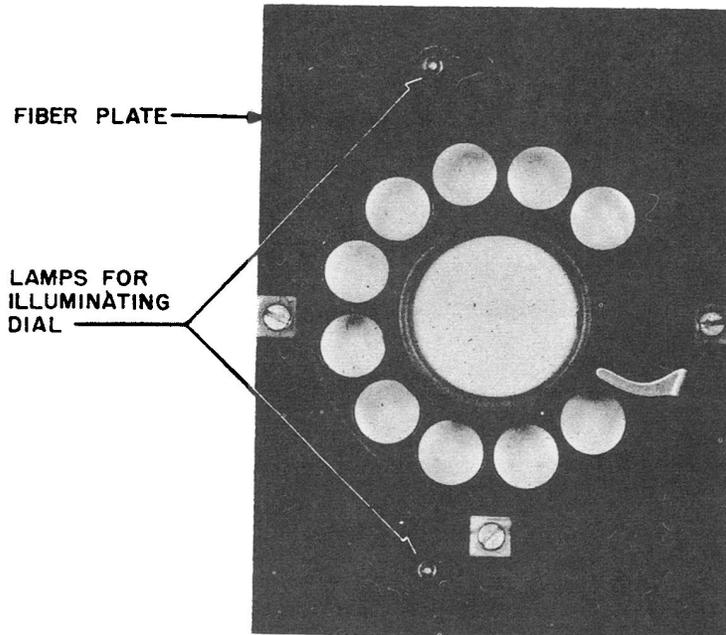

Fig. 13 - 750-type Apparatus Unit, Front View
6.02 Component parts of 750-type apparatus units are mounted, either directly or by means of brackets, on a 3-3/4 by 5-inch fiber plate (Fig. 13 and 14). The apparatus unit may be placed at either end of the assembly, as required.